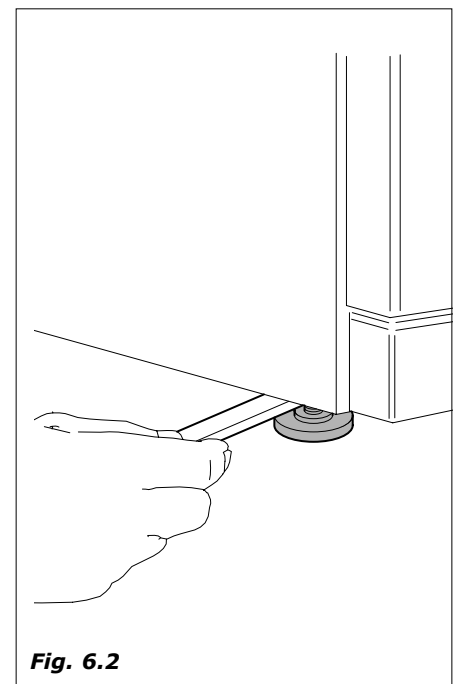

Fig. 6.2
- Position the distributor, checking the leveling by means of the adjustable feet already assembled on the machines (Fig.6.2). make sure that the distributor doesn't have an inclination of more than 2 degrees.